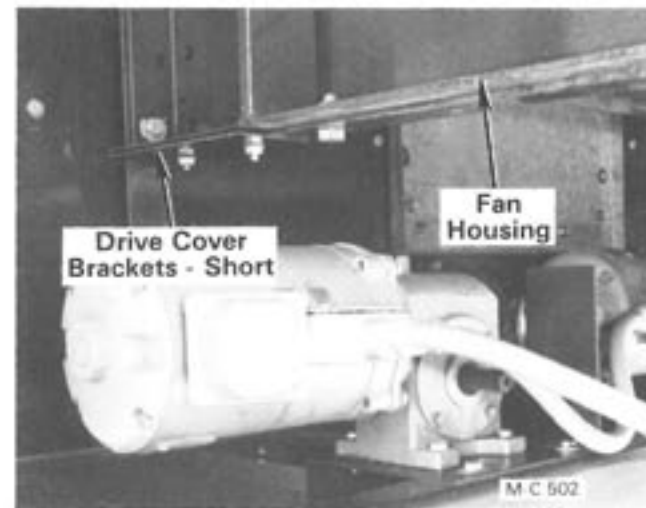

Figure 22
1. Bolt two short drive cover brackets to the rear of the fan housing on each side of the dryer with 5/16-18 x 3/4" truss head screws and locknuts, see Figure 22. Bolt two long drive cover brackets at the front of the fan housing on each side of the dryer.